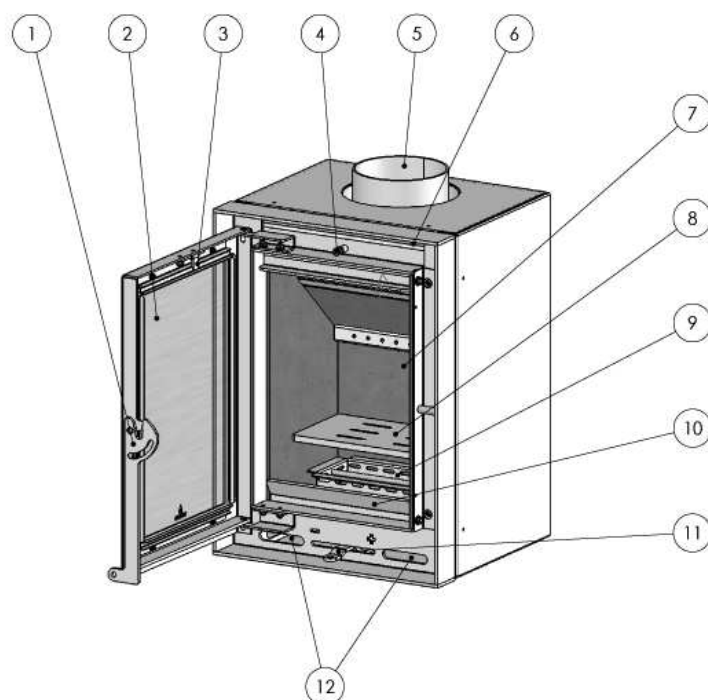

Figure 2: Operation
6.2. GETTING THE FIRE GOING (Figure 2)